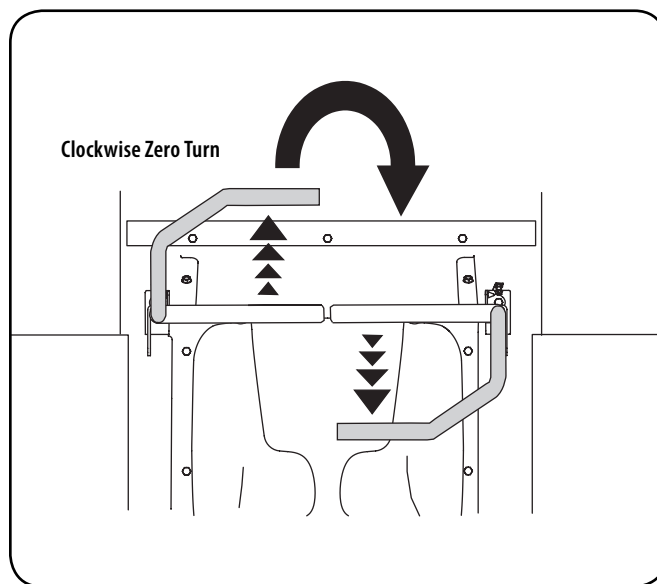

Figure 18
2. To turn clockwise, move the left control lever forward while simultaneously moving the right control lever rearward. See Figure 18.